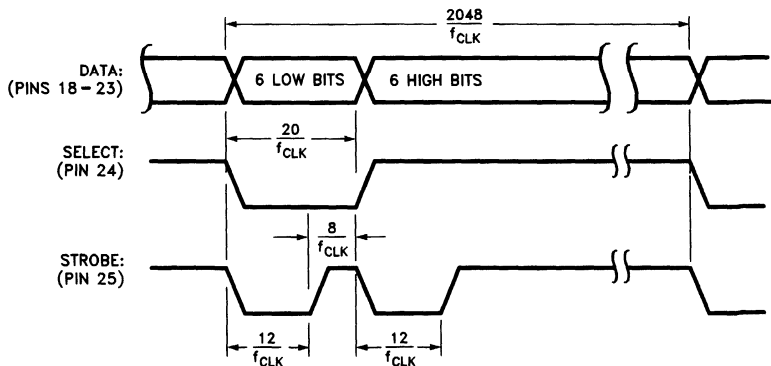
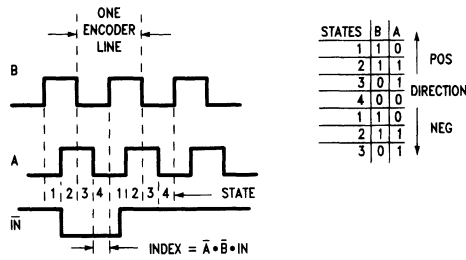

FIGURE 8. 12-Bit Multiplexed Output Timing
FIGURE 9. Quadrature Encoder Signals
**Pins 2 and 3, Encoder Signal (A, B) Inputs:** Receive the two-phase quadrature signals provided by the incremental encoder. When the motor is rotating in the positive ("forward") direction, the signal at Pin 2 leads the signal at Pin 3 by 90 degrees. Note that the signals at Pins 2 and 3 must remain at each encoder state (See Figure 9) for a minimum of 8 clock periods in order to be recognized. Because of a four-to-one resolution advantage gained by the method of decoding the quadrature encoder signals, this corresponds to a maximum encoder-state capture rate of 1.0 MHz ( $f_{CLK} = 8.0$  MHz) or 750 kHz ( $f_{CLK} = 6.0$  MHz). For other clock frequencies the encoder signals must also remain at each state a minimum of 8 clock periods.
**Pin 17, Host Interrupt (HI) Output:** This active-high signal alerts the host (via a host interrupt service routine) that an interrupt condition has occurred.
2. LM628 (12-bit output mode): Outputs two, multiplexed 6-bit words. The less-significant word is output first. The MSB is on Pin 18 and the LSB is on Pin 23. Pin 24 is used to demultiplex the words; Pin 24 is low for the less-significant word. The positive-going edge of the signal on Pin 25 is used to strobe the output data. Figure 8 shows the timing of the multiplexed signals.
decremented accordingly. This provides four times the resolution over the number of lines provided by the encoder. See *Figure 9*. Each of the encoder signal inputs is synchronized with the LM628 clock.
The above position, velocity, and acceleration values must be converted to binary codes to be loaded into the LM628. The values shown for velocity and acceleration must be multiplied by 65,536 (as shown) to adjust for the required integer/fraction format of the input data. Note that after scaling the velocity and acceleration values, literal fractional data cannot be loaded; the data must be rounded and converted to binary. The factor of four increase in system resolution is due to the method used to decode the quadrature encoder signals, see *Figure 9*.
The LM628 DAC output port can be configured to provide either a latched eight-bit parallel output or a multiplexed 12-bit output. The 8-bit output can be directly connected to a flow-through (non-input-latching) D/A converter; the 12-bit output can be easily demultiplexed using an external 6-bit latch and an input-latching 12-bit D/A converter. The DAC output data is offset-binary coded; the 8-bit code for zero is 80 hex and the 12-bit code for zero is 800 hex. Values less than these cause a negative torque to be applied to the motor and, conversely, larger values cause positive motor torque. The LM628, when configured for 12-bit output, provides signals which control the demultiplexing process. See Figure 8 for details.